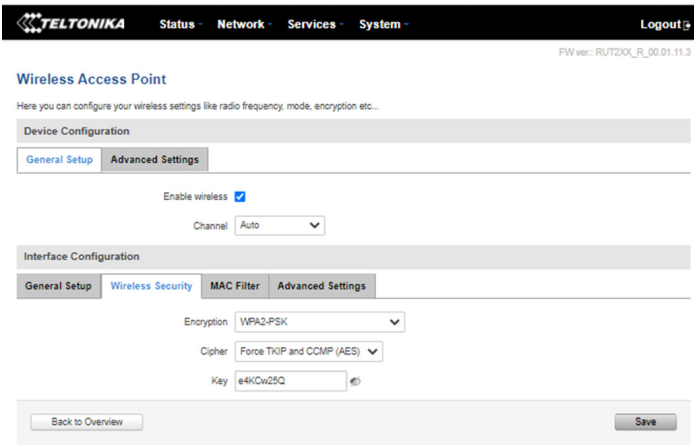

Figure 9 Wireless Settings Panel
- a. On the left side of the screen, click **Network > Wireless**. To the right of the SSID, click **Edit**. Click on the **Wireless Security** tab and click to show the **Key**. (Figure 9)